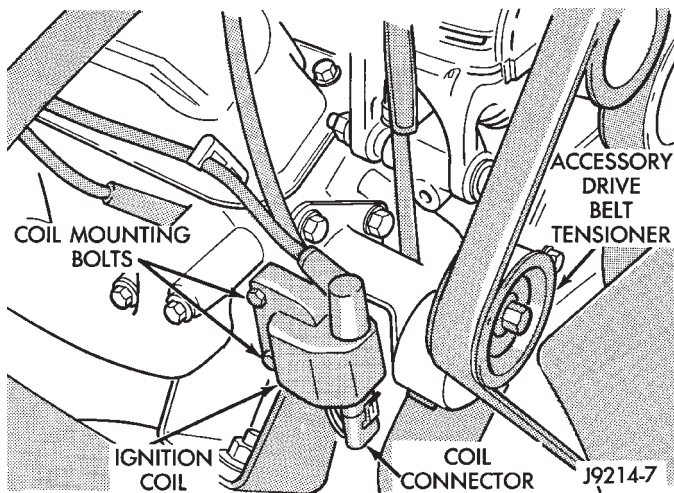

Fig. 3 Ignition Coil
(4) Inspect ignition coil connections. Verify that coil secondary cable is firmly connected to coil (Fig. 3).
(5) Verify that distributor cap is correctly attached to distributor. Be sure that spark plug cables are firmly connected to the distributor cap and the spark plugs are in their correct firing order. Be sure that coil cable is firmly connected to distributor cap and coil. Be sure that camshaft position sensor wire connector (at the distributor) is firmly connected to harness connector. Inspect spark plug condition. Refer to